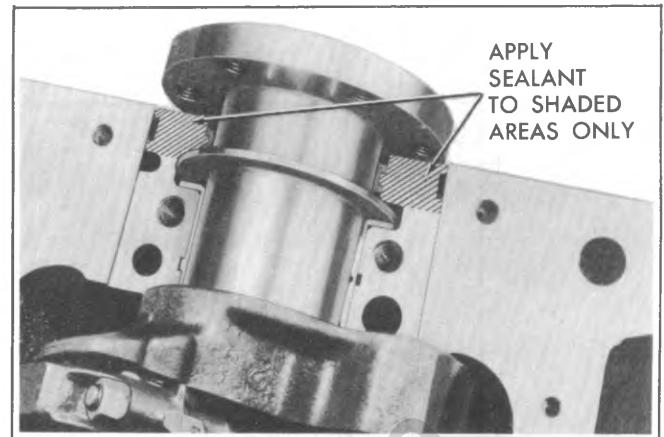

Fig. 6A2-74--Sealing Bearing Cap Block
5. Apply a thin coat of brush-on type oil sealing compound to block mating surface and corresponding surface of cap only (fig. 6A2-74). Do not allow sealer on crankshaft or seal.